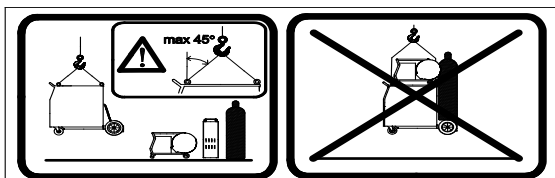

Figure 4
- Screw down an eye bolt and apply load axially in 45 degree angle in accordance to the Figure 4.